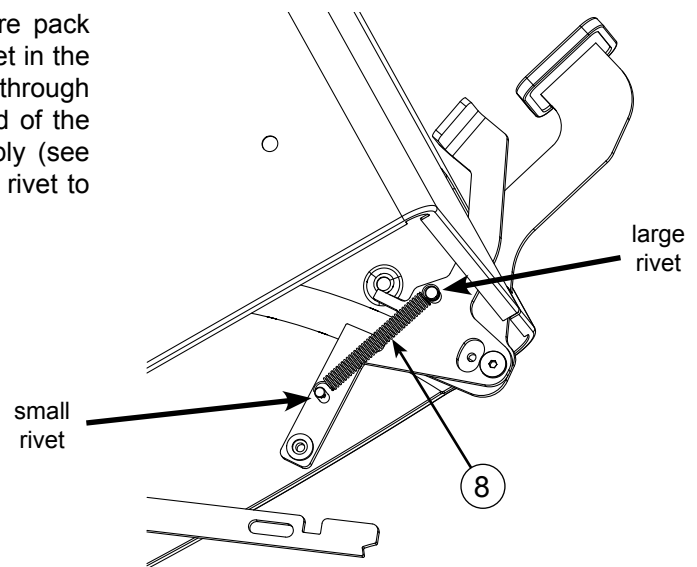

Fig. 31
13. Remove the extension spring from the hardware pack and attach one end of the spring to the small rivet in the pedal assembly by sliding one end of the spring through the hole in the small rivet. Stretch the other end of the spring over the large rivet in the pedal assembly (see Fig. 31). There is a circular groove on the large rivet to hold the spring in place.